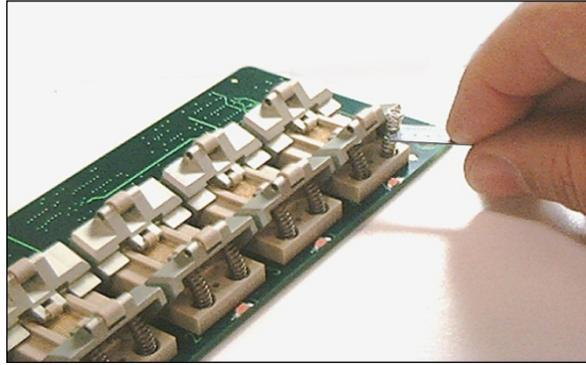

Figure 1: Removing a spring from a HIC (High Insertion Count) socket
- b. Press the spring down and outward to dislodge it from the cup in the underside of the metal actuator, as shown in Figure 1.